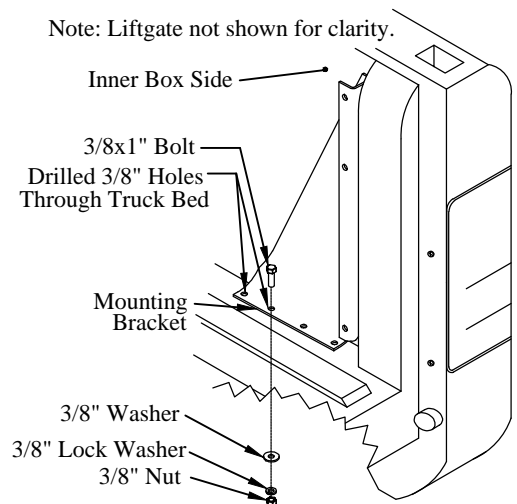

Figure 9: Mounting bracket.
Choose two of the four holes provided with no obstructions on the underside (Figure 9).
- (2) 3/8"x1" hex head bolts on the top-side (Figure 9).
- (2) washers, (2) lock washers, and (2) hex nuts on the under-side (Figure 9).